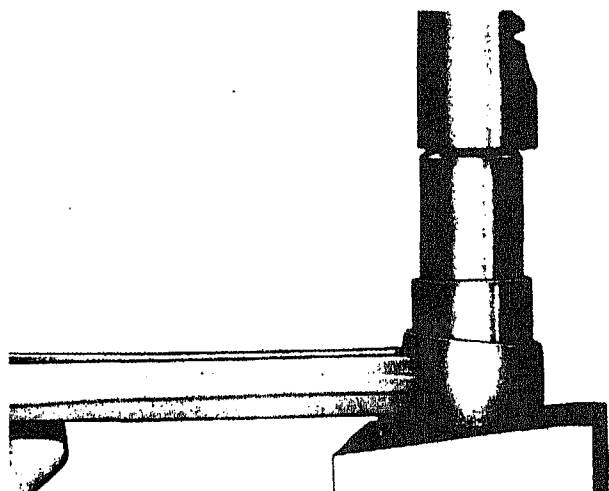

Fig. 1-8-5. Installing piston pin bushing
1. Use Mandrel and Block in an arbor press to press out old piston pin bushing. Fig. 1-8-5.